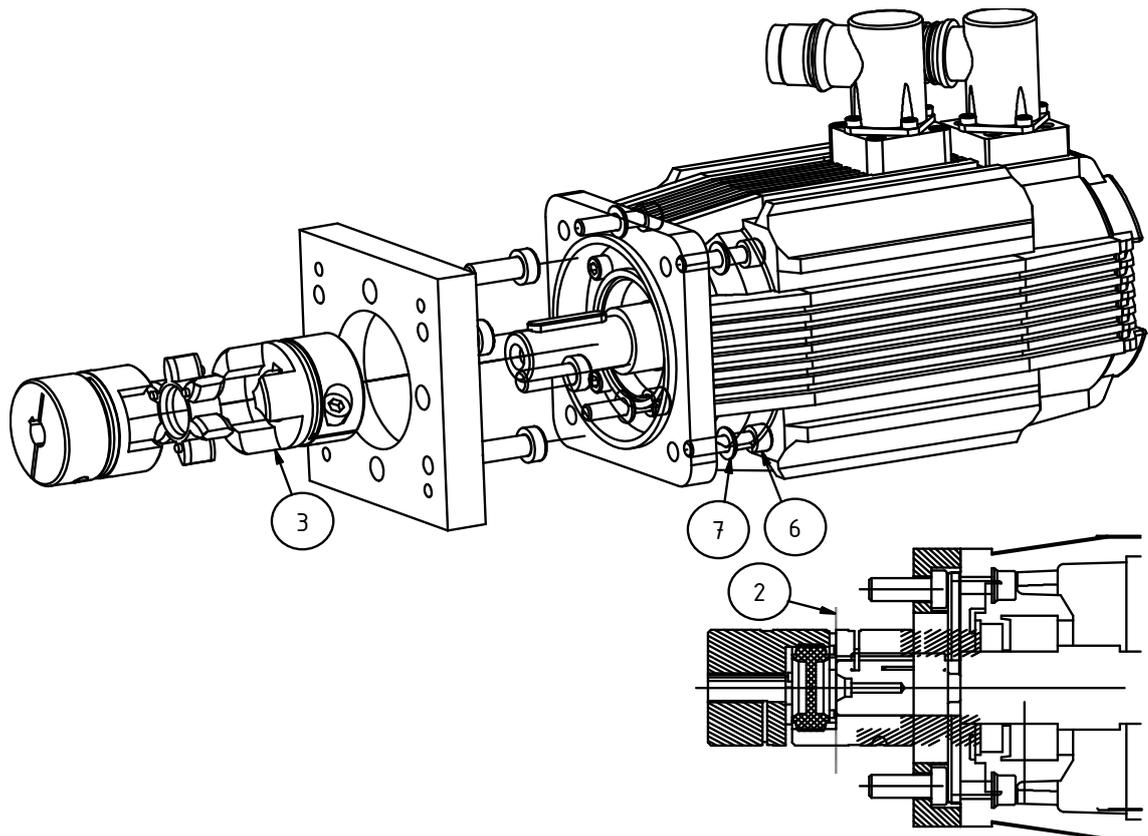

Figure 1
- ◆ Remove screws (Figure 1 Pos.6).
- ◆ Equip screw with washer and tighten (Figure 1 Pos.6, Pos.7).